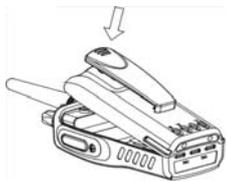

Figure 6.1
- 2) Press down the battery to lock it in place until a click is heard. (See Figure 6.1)